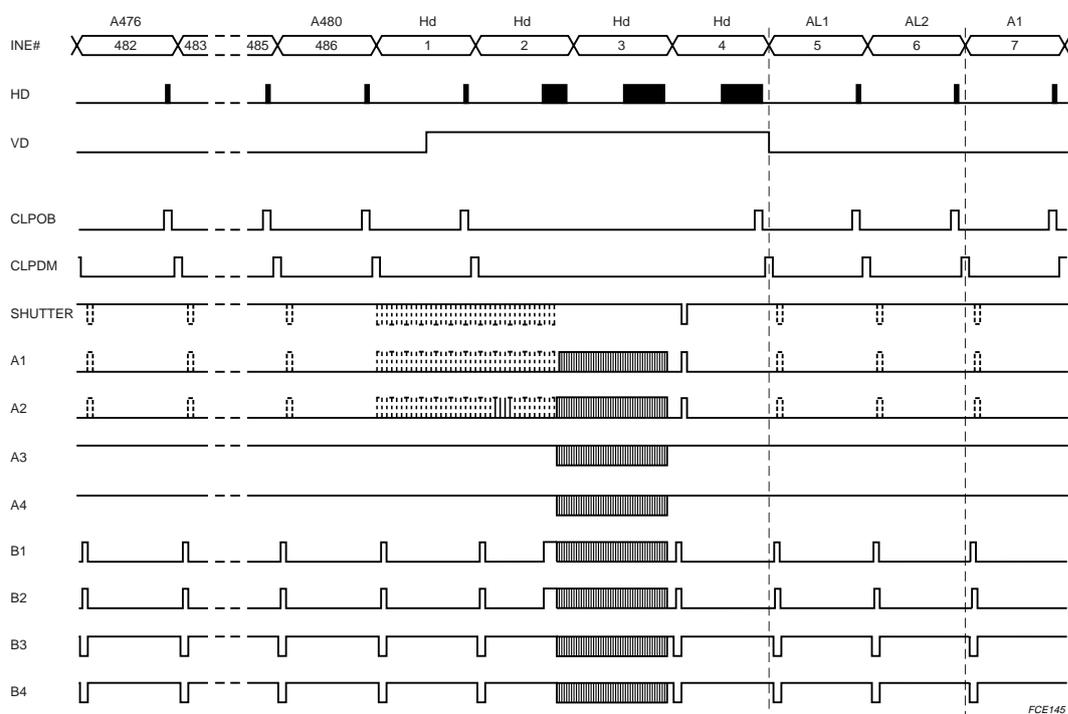

Fig.16 Vertical pulses for VGA sensors (1).
- Vertical pulses, see Figs 16 to 21.